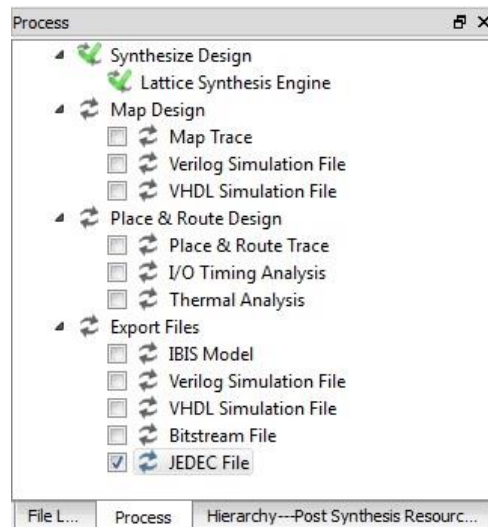

Figure 4.9. Process View of the Diamond Main Interface
3. In the **Process** view of the Diamond main interface, as shown in Figure 4.9, double-click **Export Files**, or right-click **Export Files** and choose **Rerun All** () to re-run all the previous processes to generate JEDEC files for the new design.
3. In **Process** view of the Diamond main interface, as shown in Figure 4.9, double-click **Export Files**, or right-click **Export Files** and choose **Rerun All** (🔄) to re-run all the previous processes to generate JEDEC files for the new design.